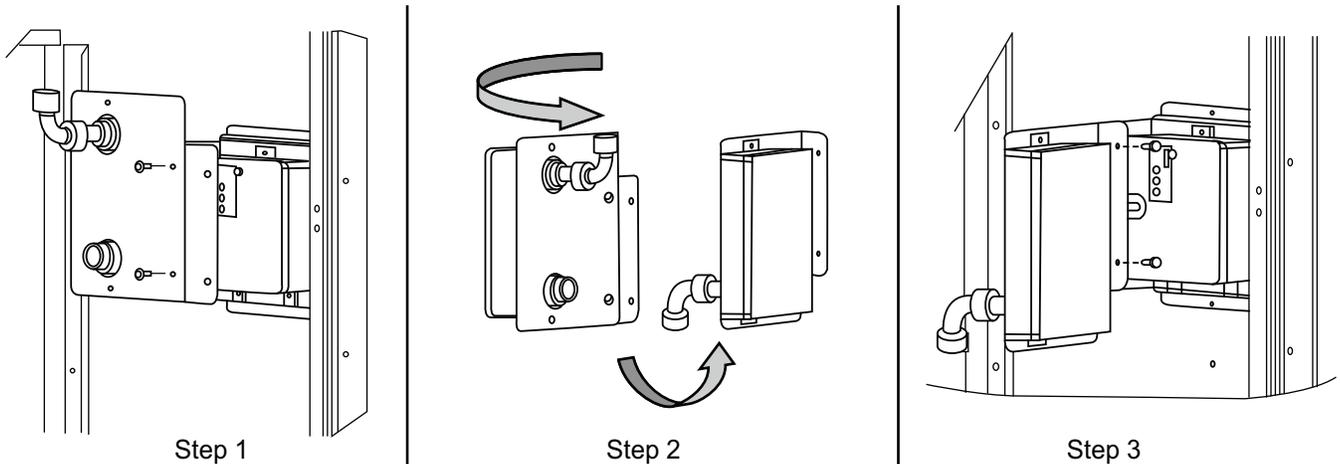

Fig. 75 — Completing Installation of Return-Air Smoke Sensor
1. Unscrew the two screws holding the return air smoke detector assembly. See Fig. 75, Step 1. Save the screws.
2. Turn the assembly 90 degrees and then rotate end to end. Make sure that the elbow fitting is pointing down. See Fig. 75, Step 2.
3. Screw the sensor and detector plate into its operating position using screws from Step 1. See Fig. 75, Step 3.